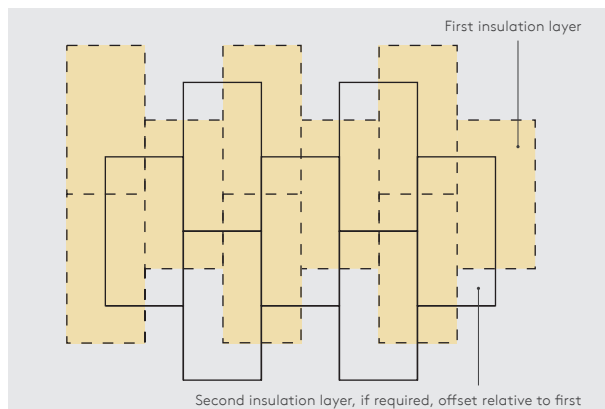

Figure 10: Offsetting of multiple insulation layers
- If two layers of insulation are required, they should be horizontally offset relative to each other so that, as far as possible, the board joints in the two adjacent layers do not coincide with each other (see Figure 10).